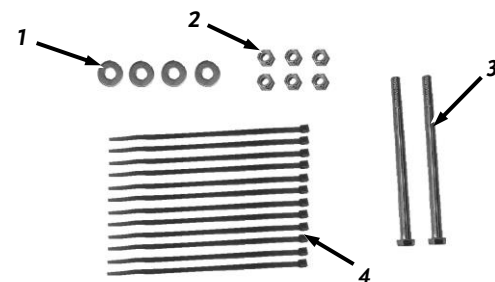

Figure 3
- Hardware Package (*see Figure 3 and Table below*)
#### Hardware Package (Figure 3):